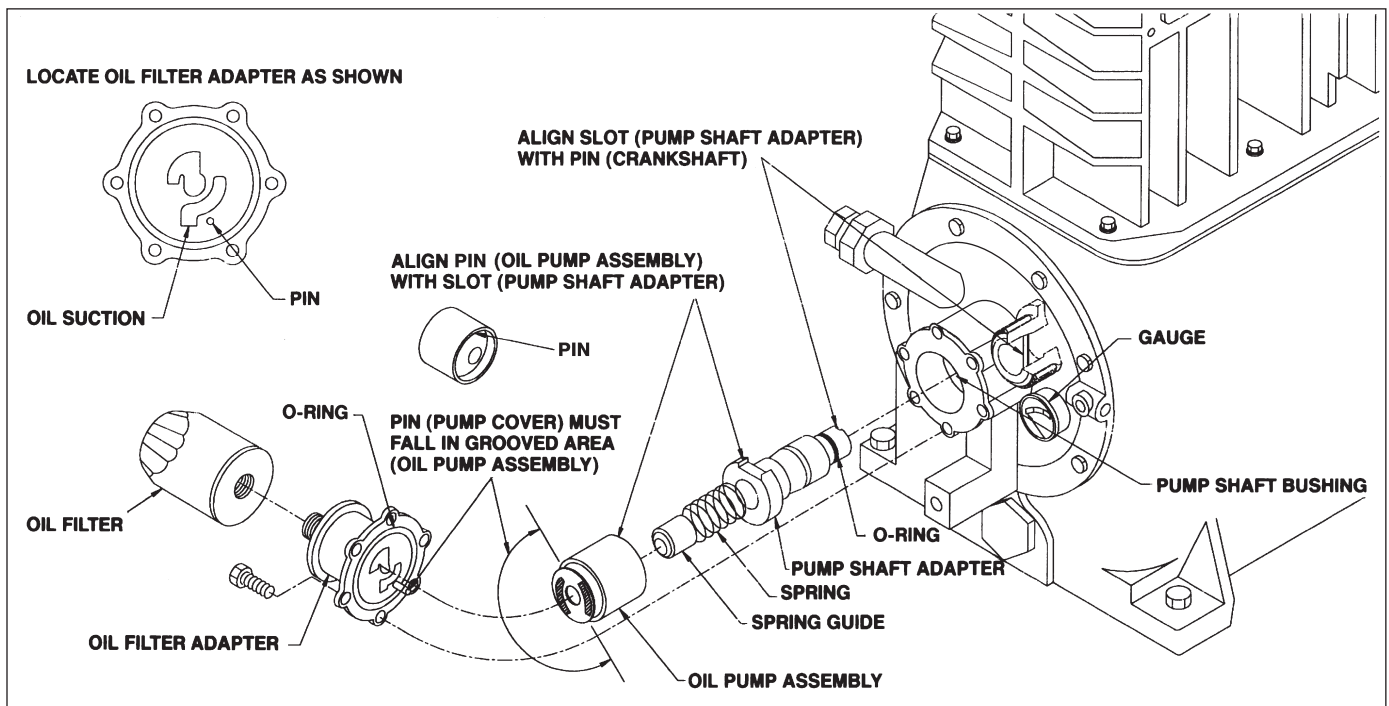

Figure 4.7: Oil pump inspection
4. Before reassembling the oil pump mechanism, replace the O-rings in the oil pump cover and on the oil pump adapter shaft (see figure 4.7).
8. Install the pump cover so the pin on the case is in the opening on the oil pump assembly as shown in figure 4.7. When you are sure the pin is properly aligned, install the cover bolts finger tight. If alignment is correct, the pump cover will mount flush to the bearing carrier. If it does not, re-check the pin alignment.